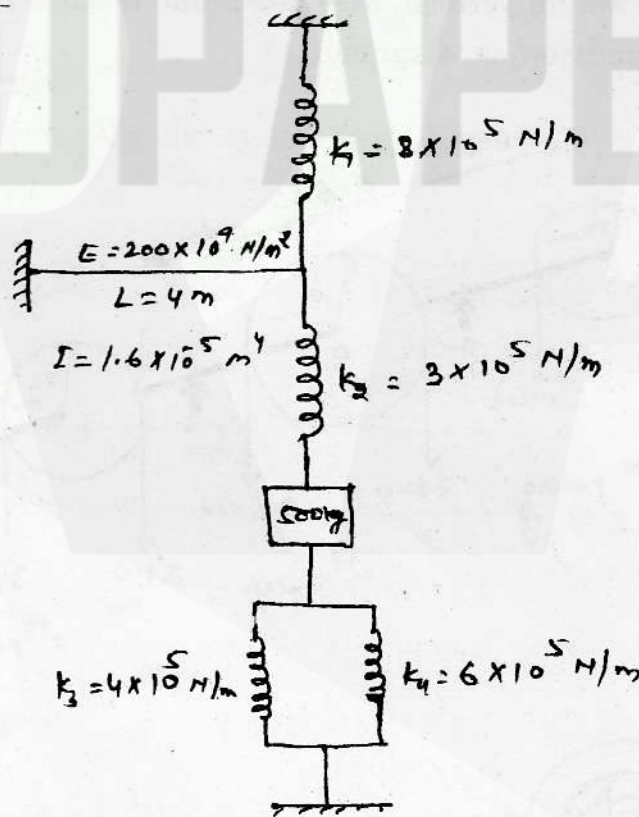

Fig. 8
- 5 (a) Determine the natural frequency of the system shown in fig. 8 below. Also find natural period.